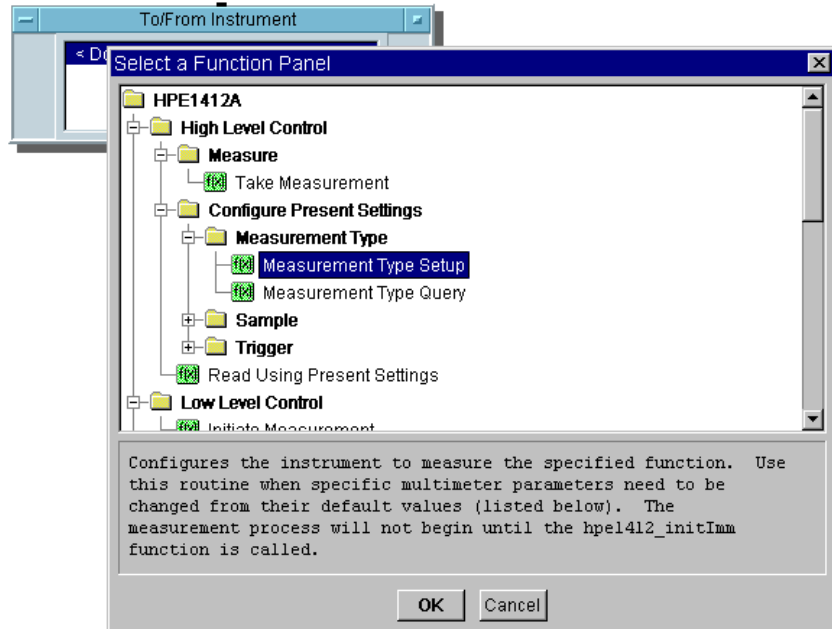
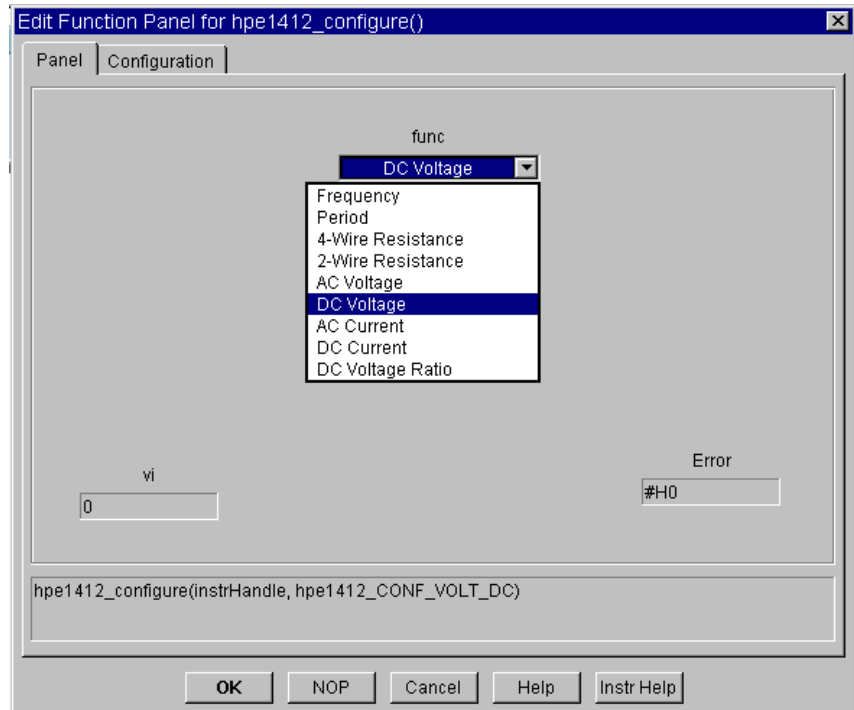

Figure 3-30. Selecting a Function for a VXIplug&play Driver
Figure 3-31. The HPE1412 Edit Function Panel
6. Double-click on the transaction bar labeled <Double-click to Add Function>, and Select a Function Panel is displayed as shown in Figure 3-30. Figure 3-31 shows the hierarchy of functions in the function panel. Notice that Help for the item selected is displayed in the dialog box.
7. Click `Configure Present Settings` ⇒ `Measurement Type` ⇒ `Measurement Type Setup`. The `Edit Function Panel` is displayed. Under `func`, click to display the drop-down list. Select the default `DC Voltage`, as shown in Figure 3-31.